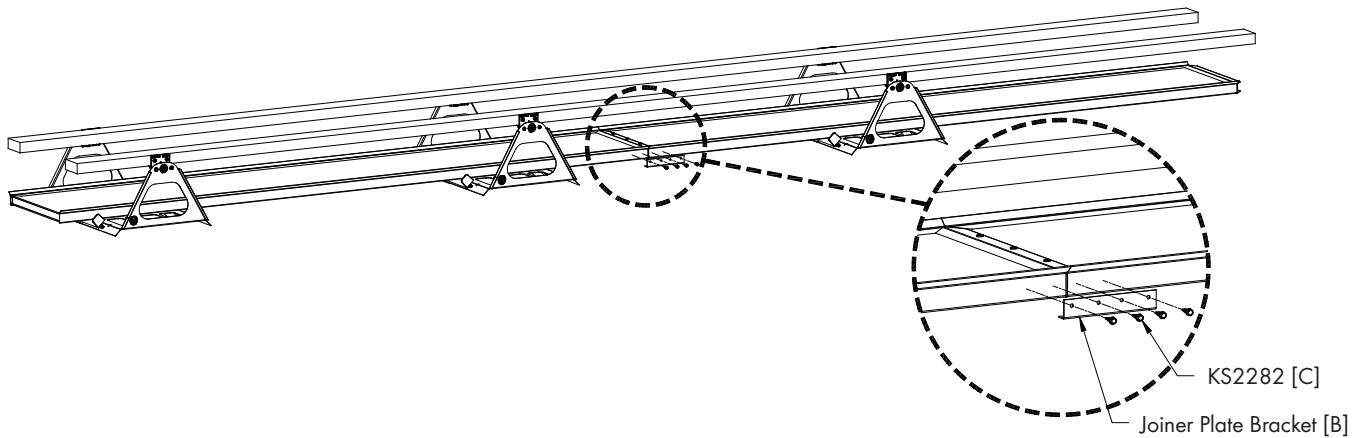

Figure 10
At the joint between each baffle Door install a Joiner Plate Bracket [B] to each side using (4) KS2282 TEK Screws [C]. See Figure 10.